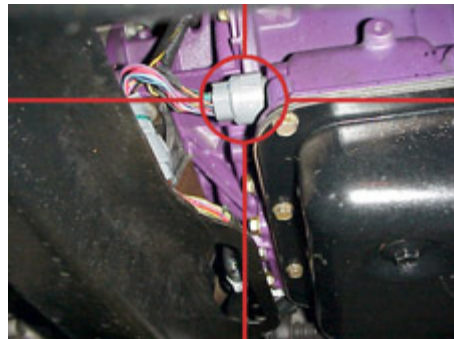

Figure 1: 20-pin connector
- 4) Un-plug the 20-pin connector from the back of the transmission (Figure 1). The connector can be difficult to disconnect from the transmission, squeeze the connector and wiggle it from left to right while exerting pressure to the rear of the vehicle. The connector will disconnect from the transmission with a little effort. **Note: The valve body does not need to be removed from the transmission to install the Co-Pilot.**